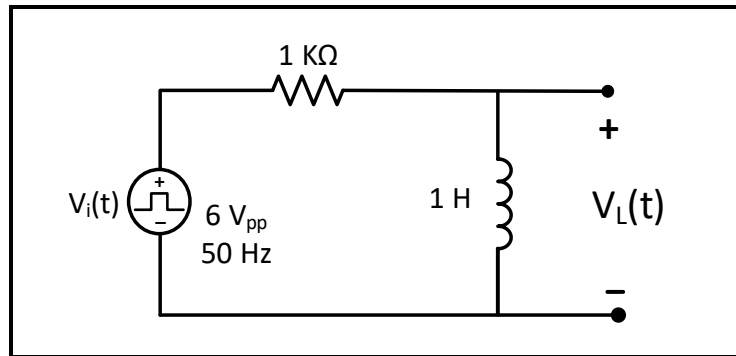

Figure 6.7
For the circuit of Figure 6.7:
1. Connect the circuit shown in Figure 6.7, with the function generator set to produce a square wave of: $V_{in} = 6\text{ V}_{pp}$, $f = 50\text{ Hz}$, and DC offset 3 V.